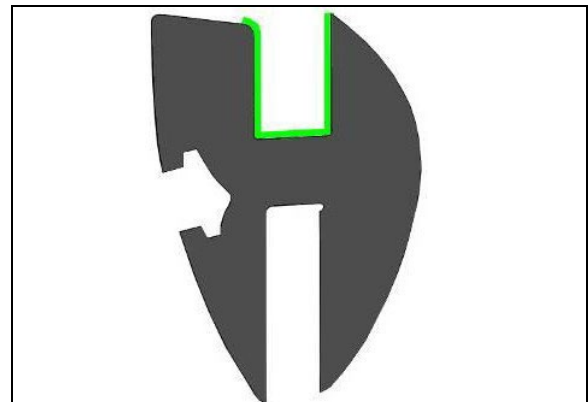
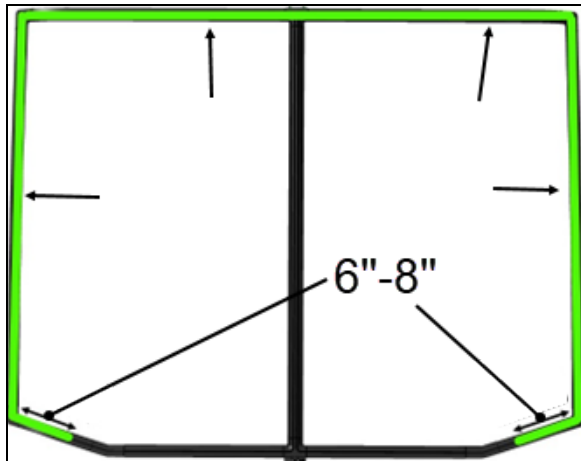
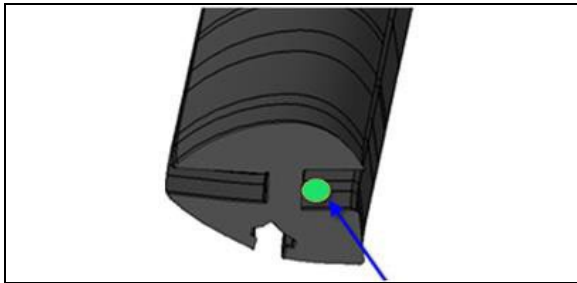

FIGURE 54
FIGURE 55
FIGURE 56: BEAD OF BLACK SIMSON 70-03 SEALANT
2. Clean the rubber extrusion groove (Figure 54) that will be in contact with the front fiber panel on the 3 sides and on a length of 8" at the bottom, both sides (Figure 55).
3. Apply a 1/8" (3 mm) bead of black Simson 70-03 sealant at the bottom of the groove (Figure 56) that will be in contact with the front fiber panel on the 3 sides and on a length of 8" at the bottom, both sides (Figure 55).